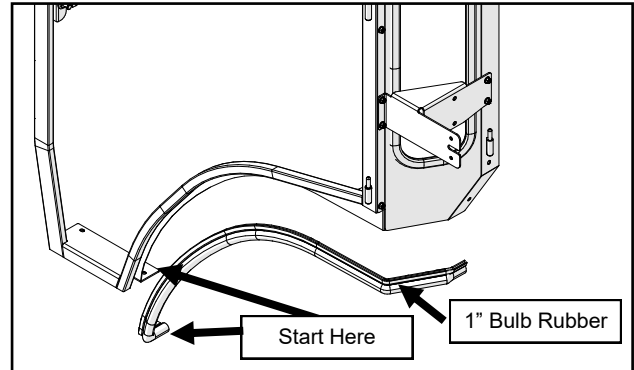

Fig. 5.3 (Press On 1" Bulb Rubber)
- 5.3 Starting at the end of the floorboard of the side frame and rear leg assembly, press on one of the lengths of 1" bulb rubber to the bottom. See Figure 5.3.